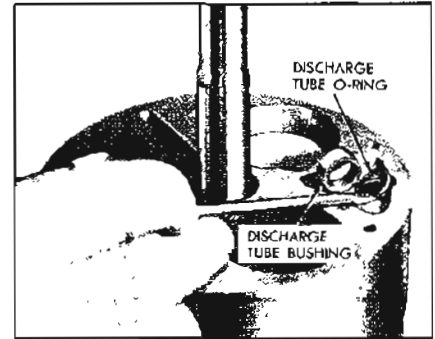

Figure 11-98—Installing Discharge Tube O-Ring and Bushing
42. Assemble both service replacement discharge tube "O" rings and bushings (see Figure 11-98) onto cylinder assembly.